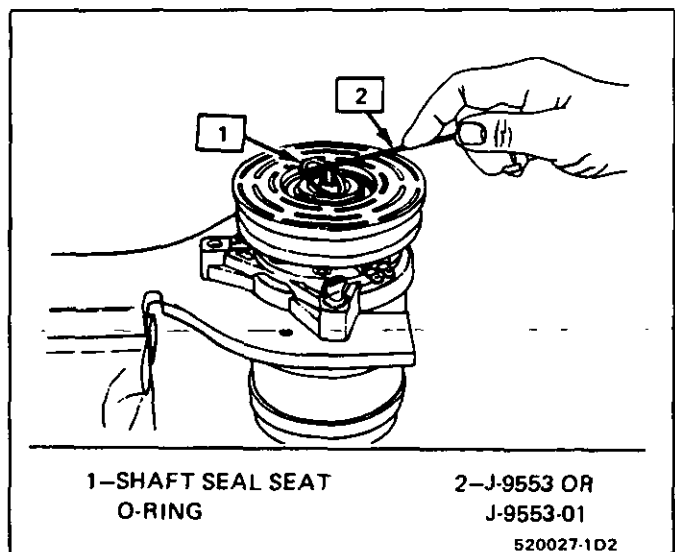

Fig. 26 Removing Shaft Seal Seat O-Ring
7. Remove and discard the seal O-ring from the compressor neck using O-ring remover J-9553 or J-9553-01 (Fig. 26).